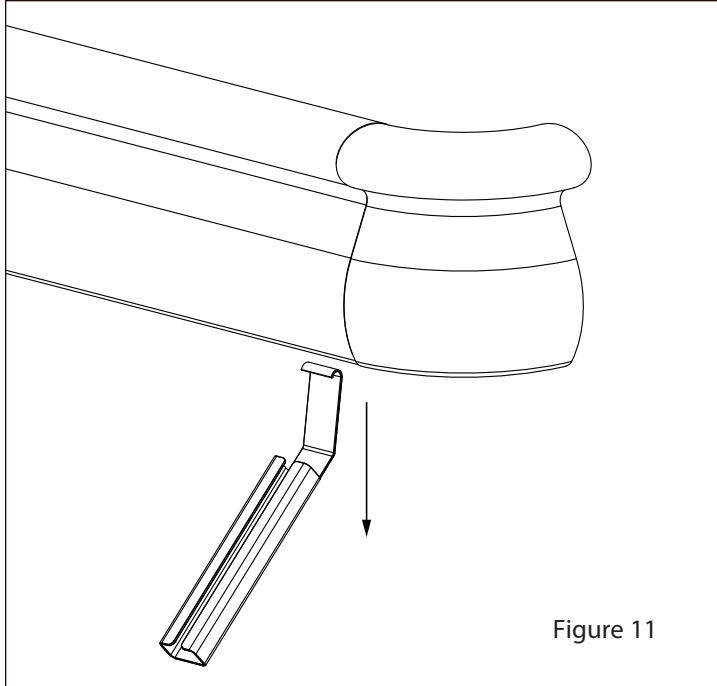

Figure 11
11. If removal of the cover is required, use a cover removal tool by engaging it into the bottom lip of the cover and pulling straight down. (see figure 11)